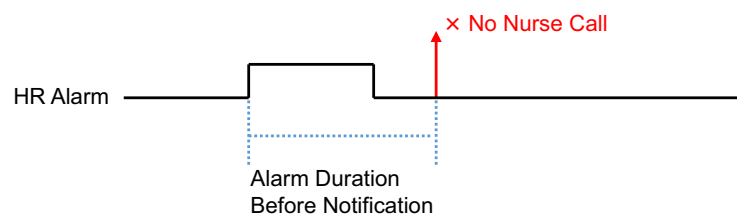

Figure 2: When the alarm factor is resolved during the preset "Alarm Duration Before Notification"
- When the alarm factor is resolved during the preset "Alarm Duration Before Notification", the alarm will not be notified to nurse call (Figure 2).